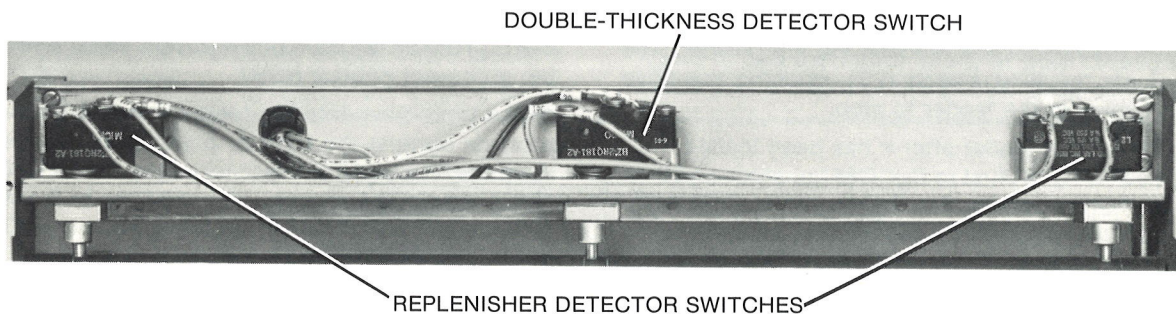

FIGURE 3
**1-5.** If two thicknesses of film are fed into the detector rollers, the **DOUBLE-THICKNESS DETECTOR SWITCH**, figure 3, opens. This sounds a buzzer which continues until the films leave the detector rollers.
**3-4.** Closing the toggle switch (SW) starts the mechanism-drive motor (M1).
**3-5.** The motor (M1) drives the mechanism and the vacuum pumps, causing the HEADER BAR, figure 2, to start down to pick up film. The film is lifted and fed into the detector rollers. Film entering the detector rollers causes the REPLENISH DETECTOR SWITCHES (MS1 and MS2), figure 3, to open and stop the motor (M1) when the header bar is in the top position. The limit switch (LS) is closed. The vacuum pump stops, allowing the cups to release the film.
**3-6.** When the film leaves the detector rollers, the replenisher detector switches (MS1 and MS2) are closed and the mechanism-drive motor (M1) restarts. The header bar continues forward, opening the limit switch (LS). The feeder continues to run through the normally closed relay circuit (R).
**3-7.** After the last film leaves the detector rollers, the replenisher detector switches energize a signal to the time-delay relay. This energizes the feeder relay (R), opening the normally closed contact and closing the normally opened contact which holds in the relay.
**3-8.** When the header bar reaches the top position, the yoke contacts the limit switch (LS), opening the drive circuit and causing the feeder to stop.
**3-9.** To restart the feeder after it has been loaded, turn the toggle switch (SW) first to the "OFF" position and then back to the "ON" position. This de-energizes the hold-in relay circuit (R) and allows the normally closed relay contact (R) to close until the limit switch (LS) is closed.
**3-10.** When two thicknesses of film are fed into the detector rollers, the double-thickness detector switch (MS3) causes the buzzer (BZ) to sound.
**3-11.** The feeder is turned off by opening the toggle switch (SW).